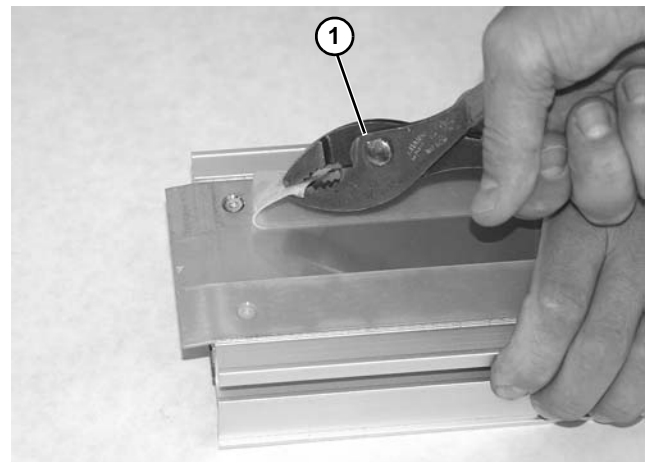

Figure 46
3. Remove old wear strip with a pliers (**Figure 46, item 1**).